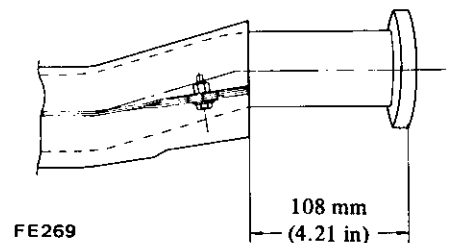

Fig. FE-13 Mounting position of exhaust front tube heat shield plate
- Install upper and lower heat shield plates ⑥ and ⑦ on their brackets, and tighten securely with bolts. Make sure that distance between rear face of exhaust front tube and rear end of heat shield plate is 108 mm (4.25 in). If necessary, adjust until correct distance is obtained. Refer to Fig. FE-13.